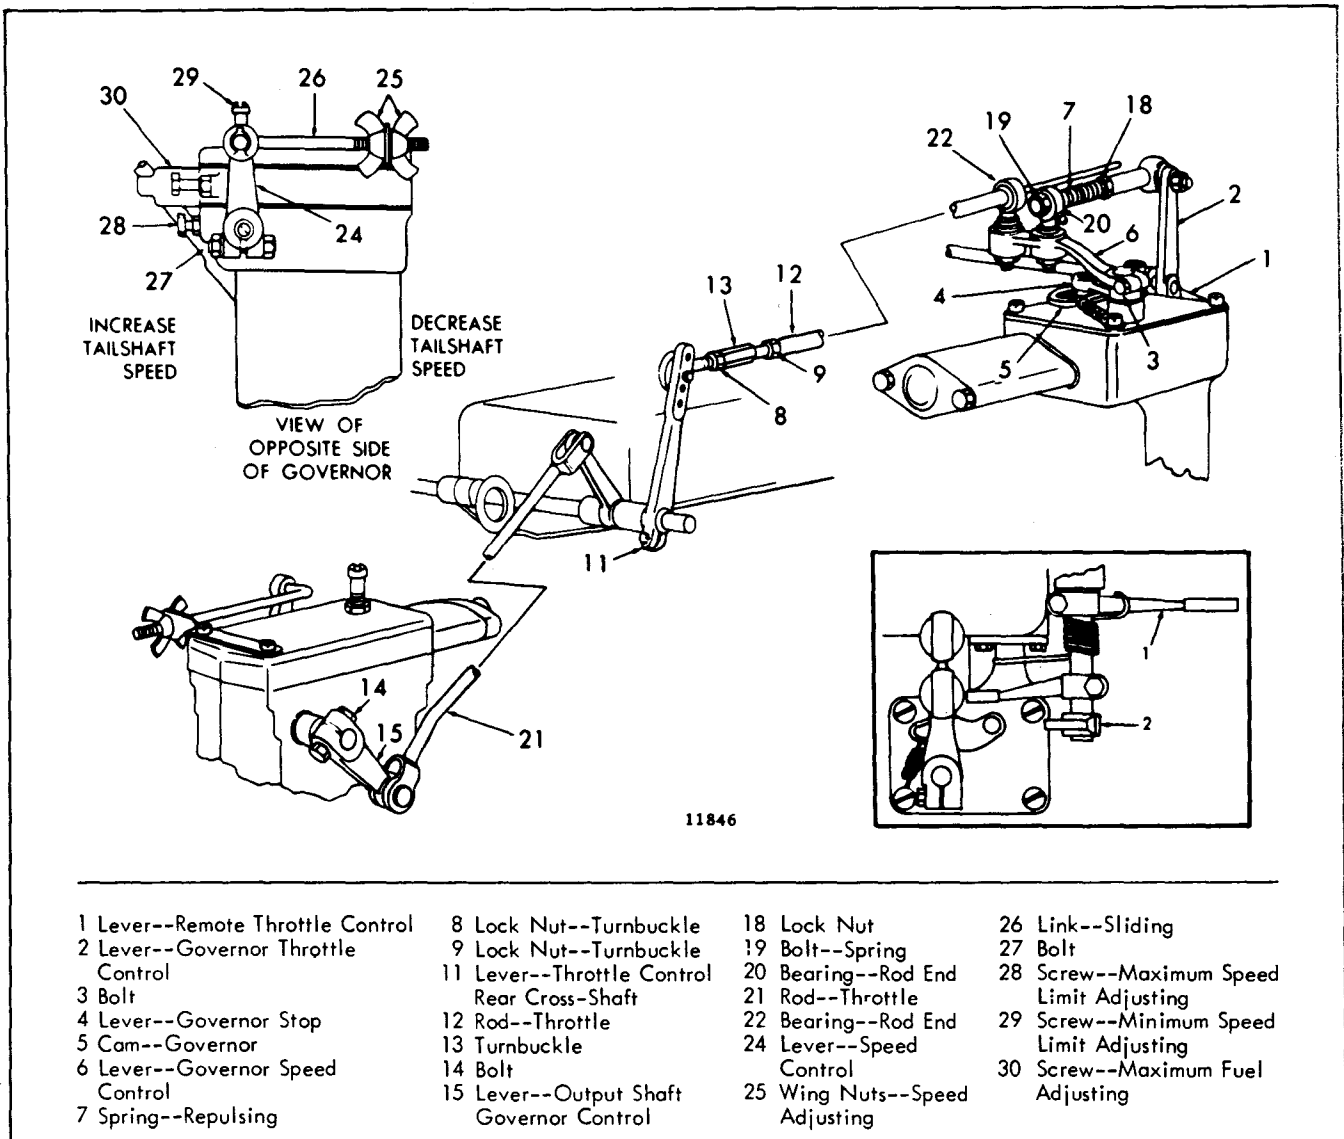

Fig. 2 - Hydraulic Output Shaft Governor and Linkage (Type B)
Adjustments (Type B - Fig. 2)
1. Place the remote throttle control lever (1), Fig. 2, in the maximum speed position.
2. Move the governor speed control lever (6) and governor stop lever (4) into the "idle" notch in the governor cam (5). The repulsing spring (7) should be fully compressed when the stop lever reaches the "idle" notch of the governor cam.